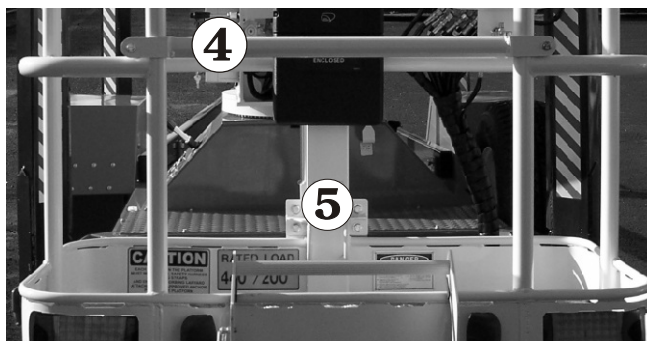

Figure 10.12
4. Enter the platform, close the gravity gate **4**, and attach the lanyard of your fall restraint (safety harness) to one of the anchor points **5** (see Figure 10.12).